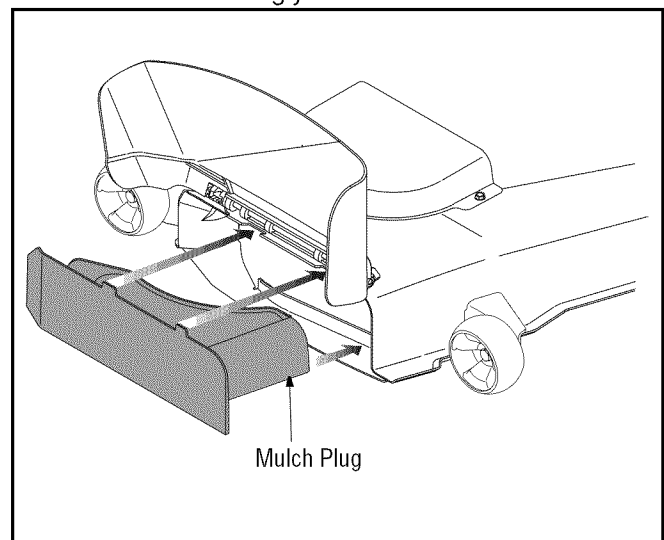

Figure 9
- Pivot the discharge chute up to access the deck opening. See Figure 9.
- Insert the mulch plug, aligning the top edge of the plug with the deck as shown in the Figure 9. Make sure the notches on the plug are in the slots on the deck opening.